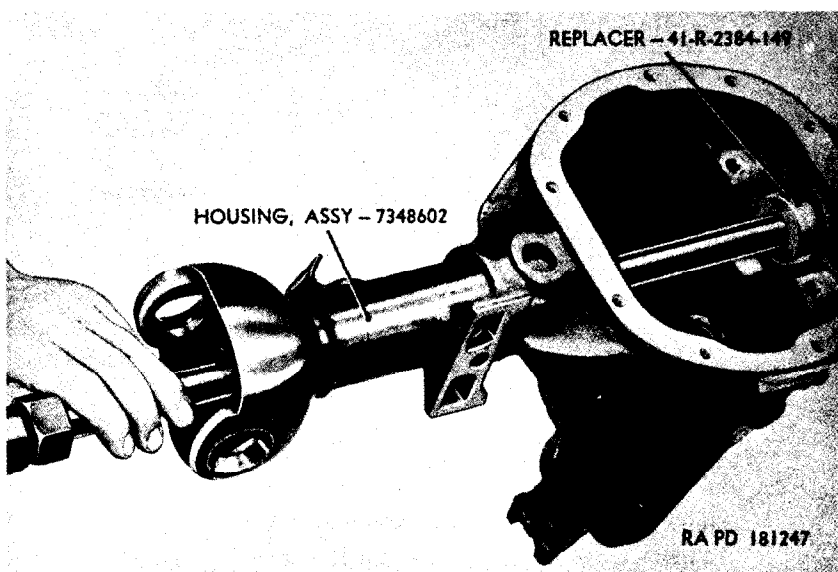

Figure 111. Installing front axle inner axle shaft oil seal.
- (2) Install a new inner axle shaft oil seal in each side of housing with replacer 41-R-2384-149 (fig. 111).